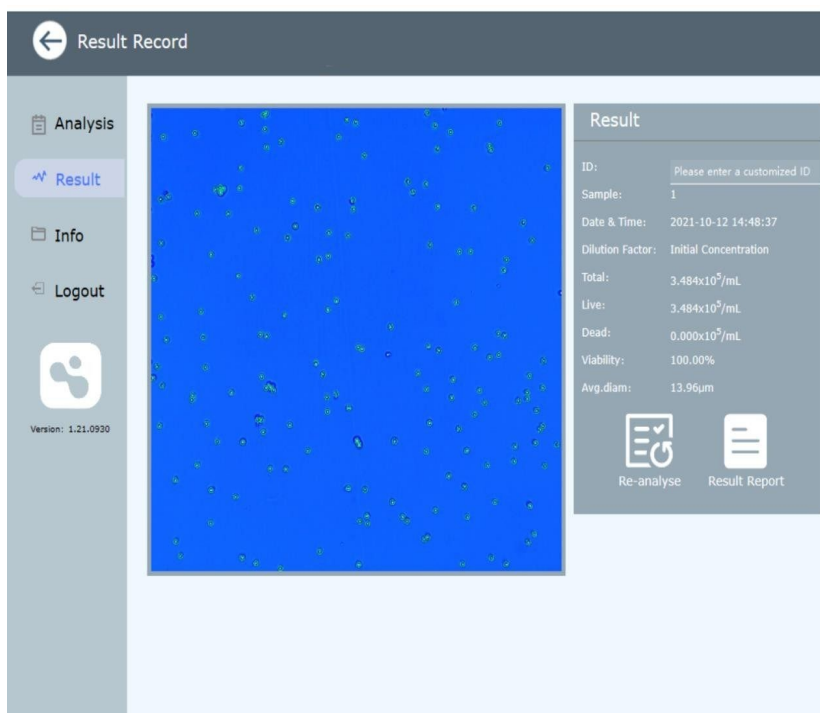

FIG. 11 Results interface
3. It takes about 2s for the cell counter to complete the counting of a sample, and the interface will display the results of the test sample (as shown in Figure 11). The analysis results includes the following six parameters: total cell concentration, live cell concentration, dead cell concentration, cell viability (the proportion of live cells to total cells), and average diameter.
After counting, results will be displayed directly (as shown in Figure 11), and all test results will be automatically stored in the connected computer, including counting images and the parameters.
As shown in Figure 11, the total cell concentration, living cell concentration, dead cell concentration, cell viability rate (proportion of living cells to total cell number) and average diameter of the sample will be displayed on the analysis interface. Users can also name the counting sample at Number.
Click "Distribution" in Figure 11 to view the histogram of sample cell diameter.
Click "Result Report" in the analysis result interface (as shown in Figure 11) to view the overall analysis report of sample cells (.pdf file).